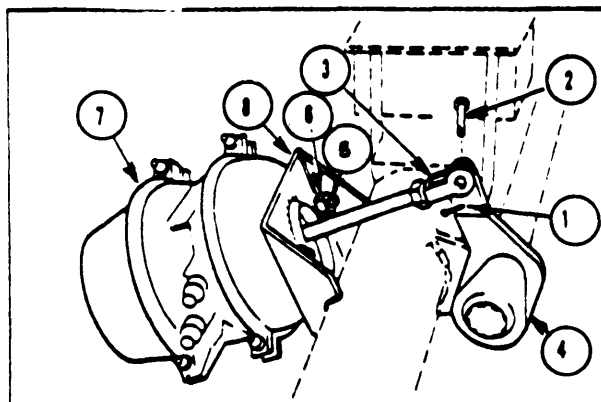

Figure 2-38. Trailer Brake Air Chamber Assembly (ARMY)
2-40. TRAILER BRAKE AIR CHAMBER ASSEMBLY. (Figure 2-38) (ARMY)
(1) Remove cotter pin (1) and clevis pin (2) attaching air chamber assembly clevis (3) to slack adjuster (4).
(2) Remove nuts (5) and washers (6) attaching air chamber assembly (7) to air chamber bracket (8).
b. Installation. (Figure 2-38)
(1) Position air chamber assembly (7) to air chamber bracket (8).
(2) Install washers (6) and nuts (5).
(3) Align air chamber assembly clevis (3) with slack adjuster (4) and install clevis pin (2). Install cotter pin (1) to secure clevis pin (2).